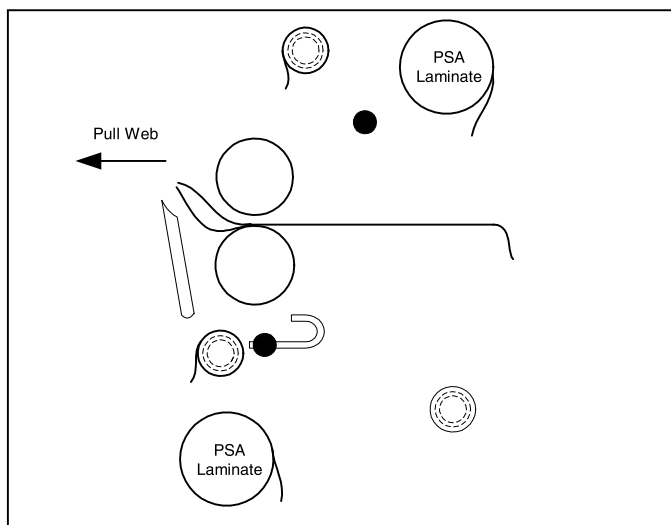

Fig. 28
7. Carefully grab hold of the web (top and bottom film), from the front operating position and pull towards you (Figure 28).